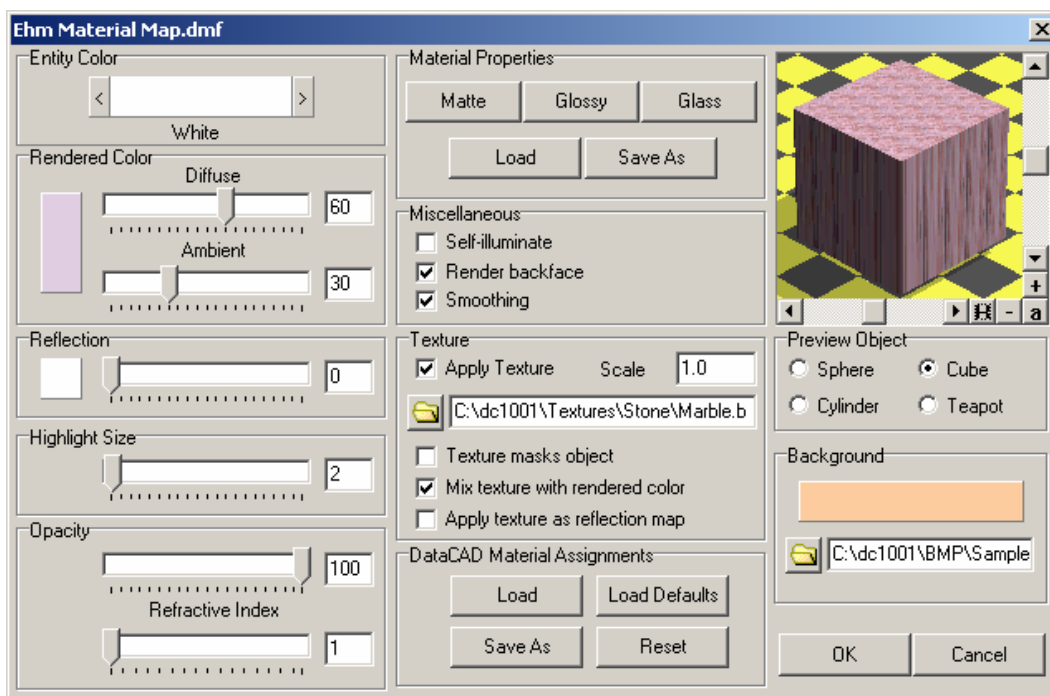

Figure 26.22: The color mapping decisions you make affect the Preview model.
6. Select Object Viewer from the View menu. The Object Viewer appears. The decisions that affect the STUCCO layer (see Figure 26.22) are displayed in the Object Viewer. If you are unhappy with the way the material looks, you can return to step 1 and go through the process again.